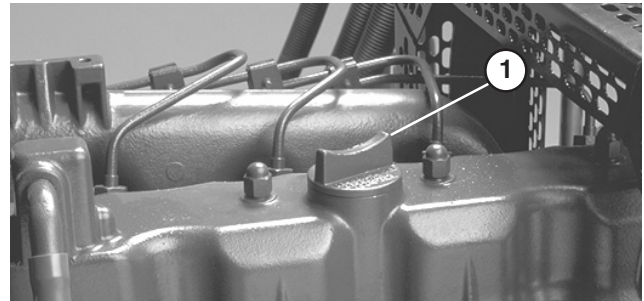

**Figure 3**
3. Remove dipstick, wipe clean and reinstall dipstick into tube and pull it out again: Oil level should be up to FULL mark (Fig. 3).